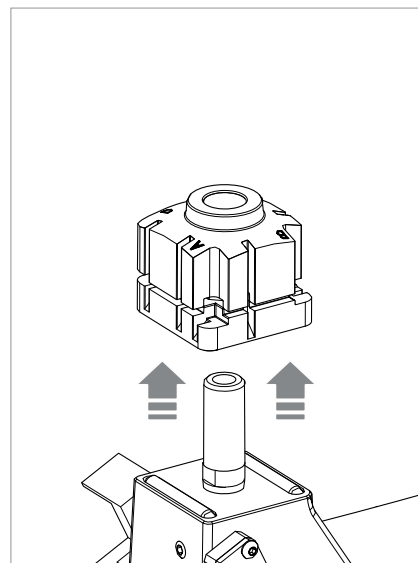

Fig. 41
- 3) Pull the clamp upwards (Fig. 41).